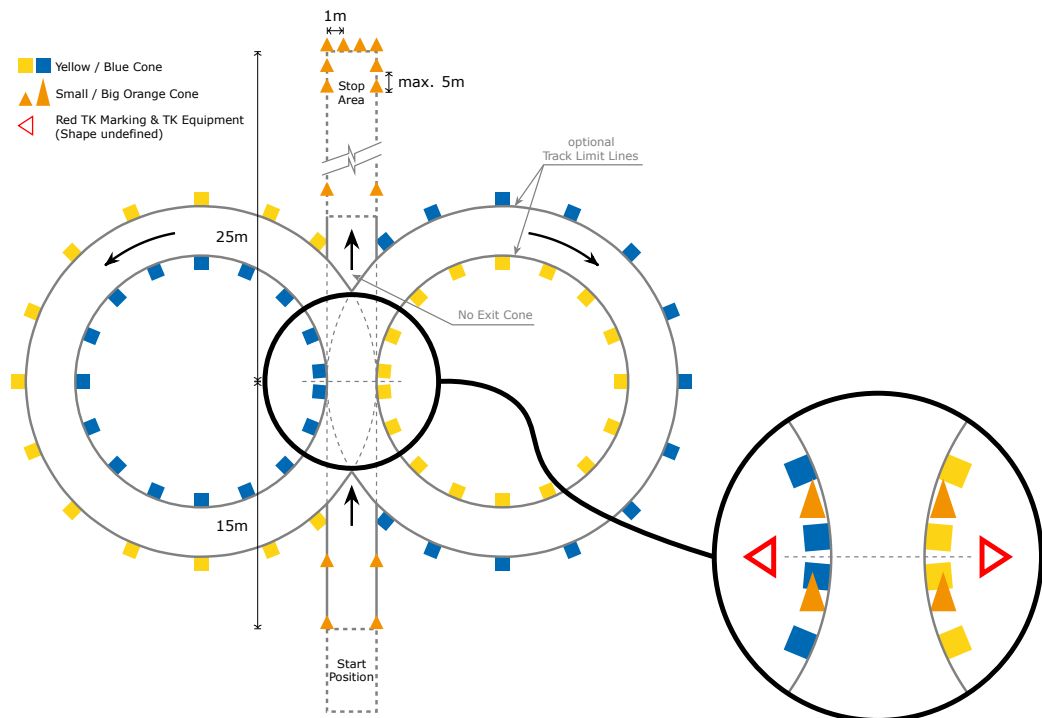
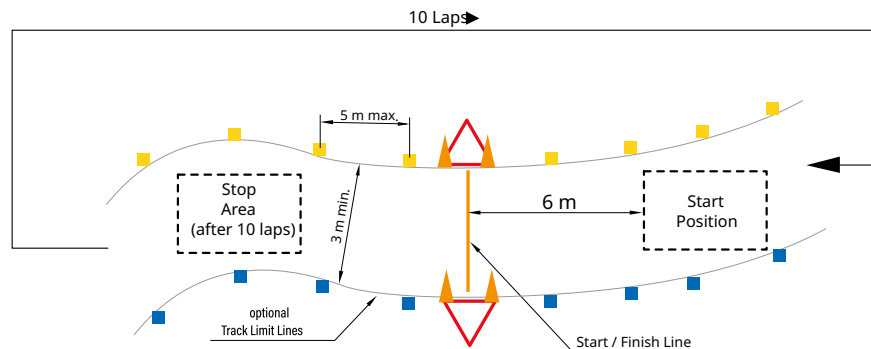

Figure 4: Skidpad according to D 4.2.5
Figure 5: Trackdrive according to D 8.1
- DE 7.5.6 Figures Figure 3, Figure 4 and Figure 5 visualize the track layout descriptions given in D 5.1, D 4.2.5 and D 8.1.